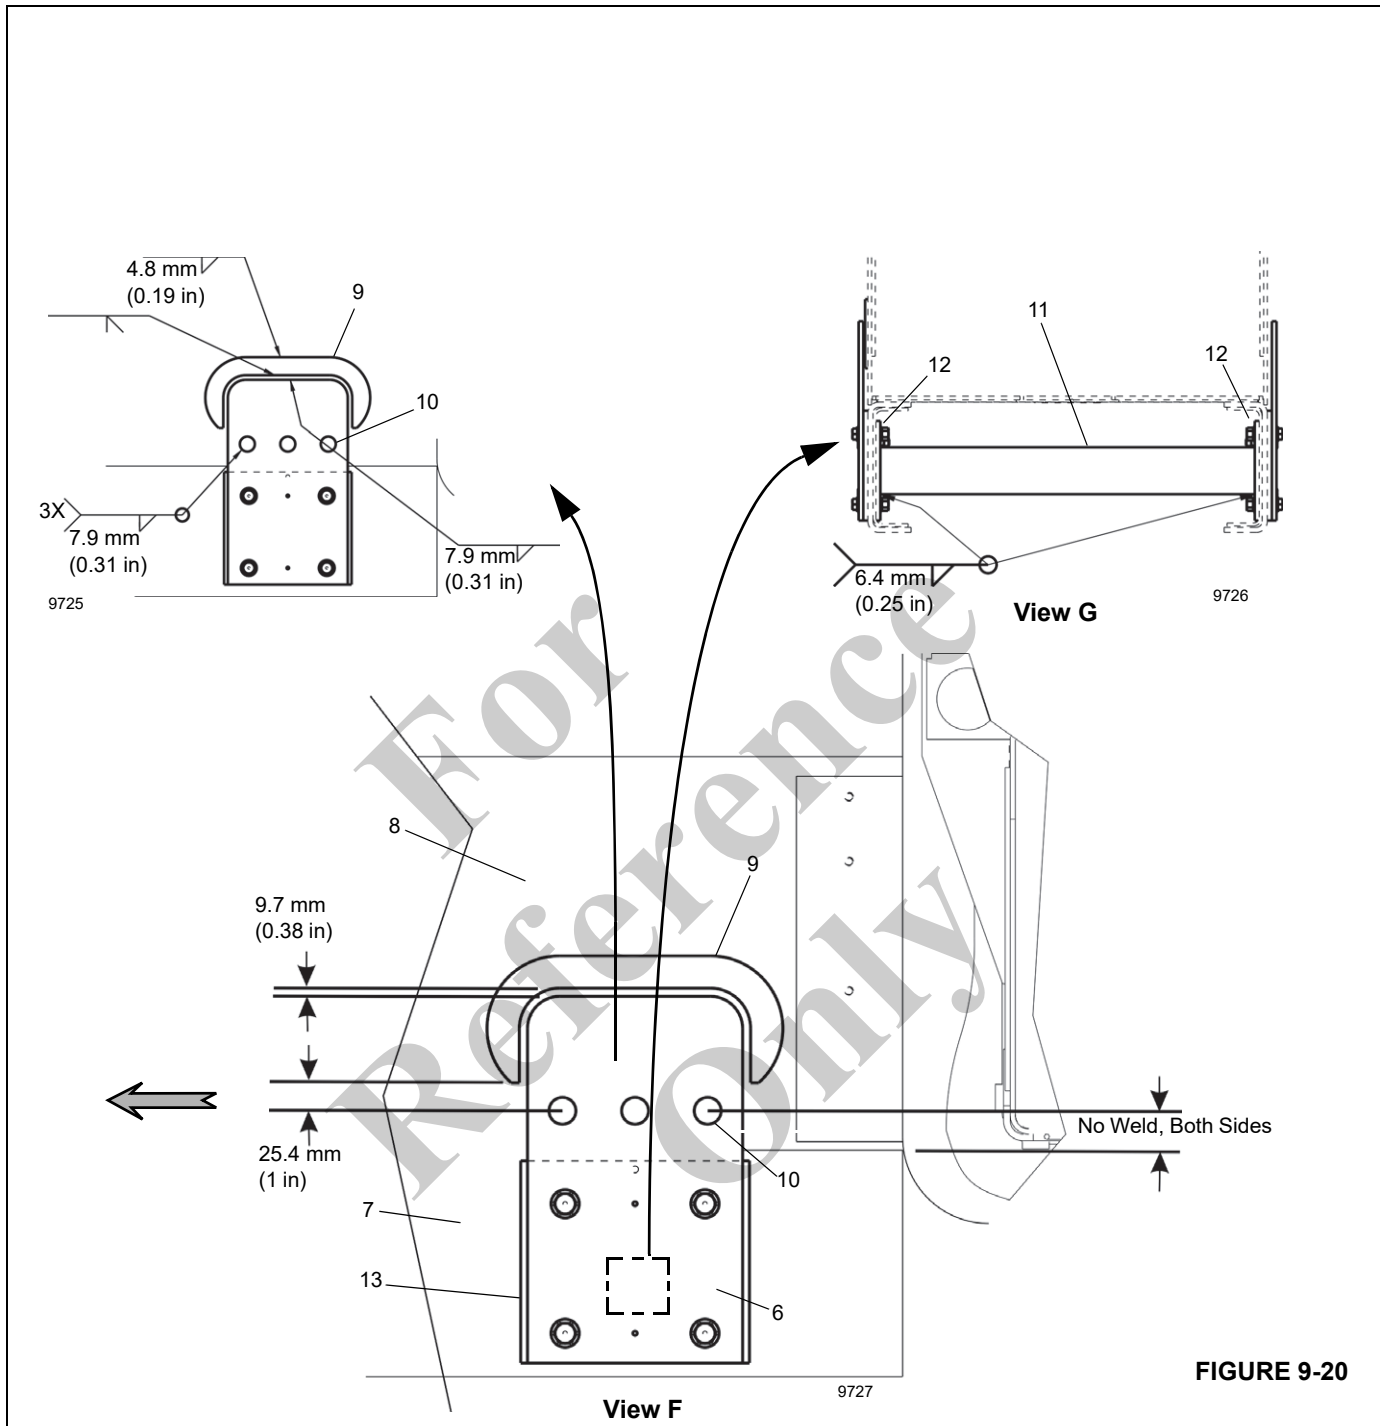

FIGURE 9-20
See Figure 9-20 for the following steps.
7. Locate and weld the rear strap plate (7 View F) and collar plate (9, View F) to the T-box frame (8). See Figure 9-20 for locater dimensions and weld requirements.
8. Cut the cross bar (11, View G) to fit inside the truck frame, making sure to include the width of the two end plates (12).
10. Position the welded cross bar assembly to the truck frame, in the center of both strap plates (6), and tack weld it to the truck frame.